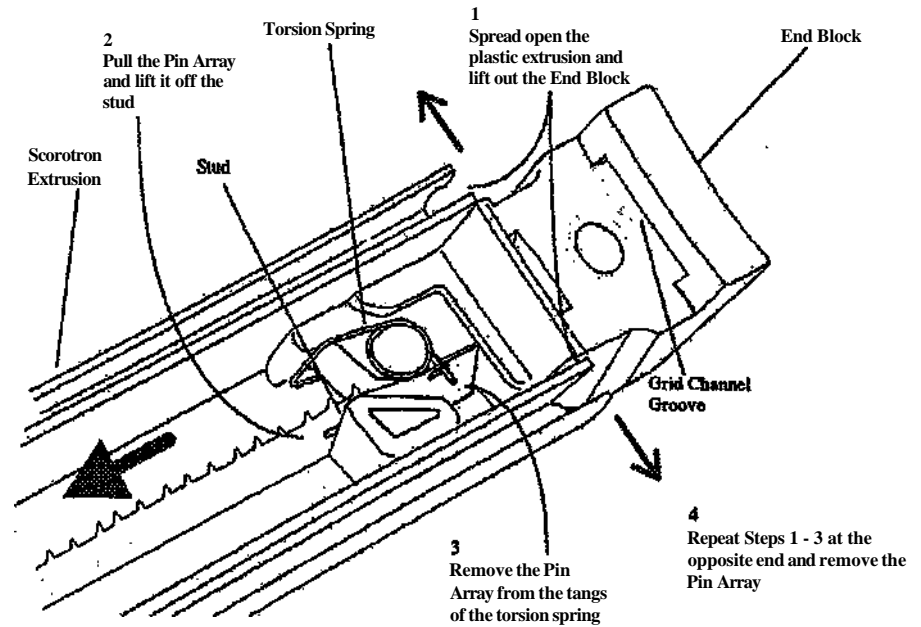

Figure 3. Removing the Charge Scorotron Pin Array
6. (Figure 3): Remove the Charge Scorotron Pin Array.